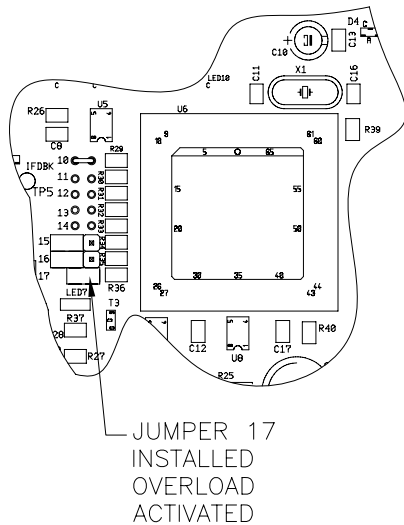

Figure 18: Jumper Location - Overload Activation
2. Place the jumper across the two (2) pins at location 17 on the main PC board (see Figure 18).